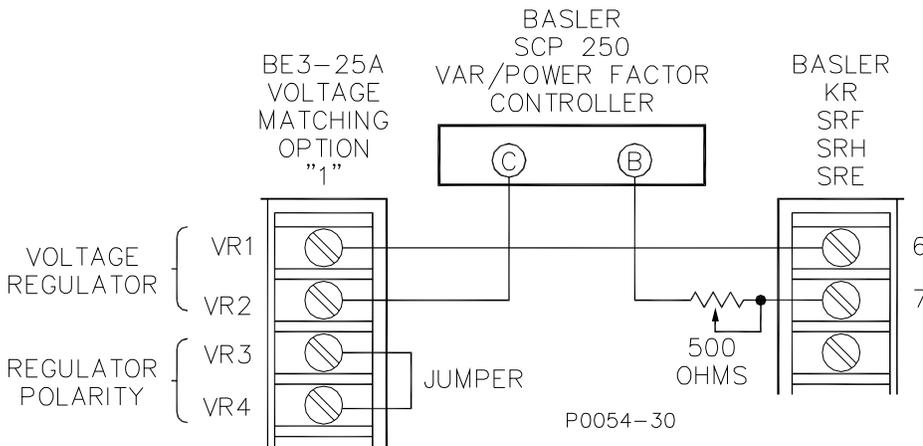

Figure 4-13. Voltage Matching Connections, KR, SR-F, SR-E, and SR-H Regulators
BE3-25A summing point output connections for voltage matching are illustrated in Figures 4-13 through 4-17.
5. *Style X1X.* Using Figures 4-13 through 4-17 as a guide, either remove or install the Regulator Polarity jumper at terminals VR3 and VR4.